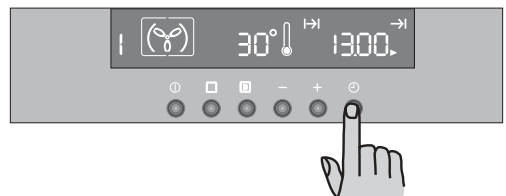

Fig. 14
- 2) Press button ◻ until the "End of Cooking" function →| is selected and the relevant symbol flashes. The control panel will display the end of cooking time (that is, the actual time + cooking duration time - Fig. 14).